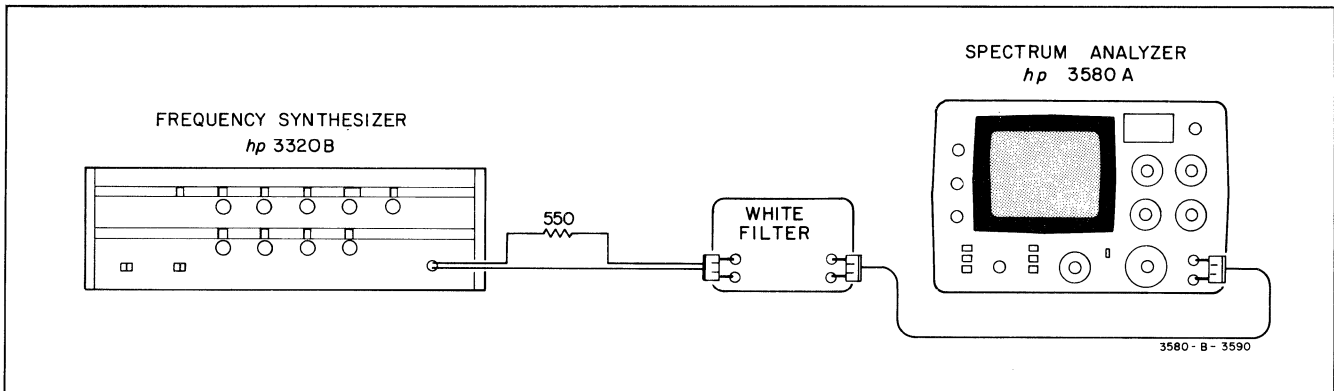

Figure 5-3. Spurious Response Test.
e. Connect the frequency synthesizer (use proper output impedance needed for the bandpass filter) to the input of the bandpass filter. Adjust the filter for a 5 kHz center frequency and adjust the synthesizer for a 5 kHz output. (For a 50 ohm source and the White 2640 filter, connect a 550 Ω resistor ($\pm 10\%$) in series between the filter and synthesizer. This gives the 600 Ω source impedance required by the White filter (See Figure 5-3).
f. Connect the output of the filter to the input of the 3580A. Always terminate properly if required. (The White Model 2640 filter requires no output termination. See Figure 5-3).